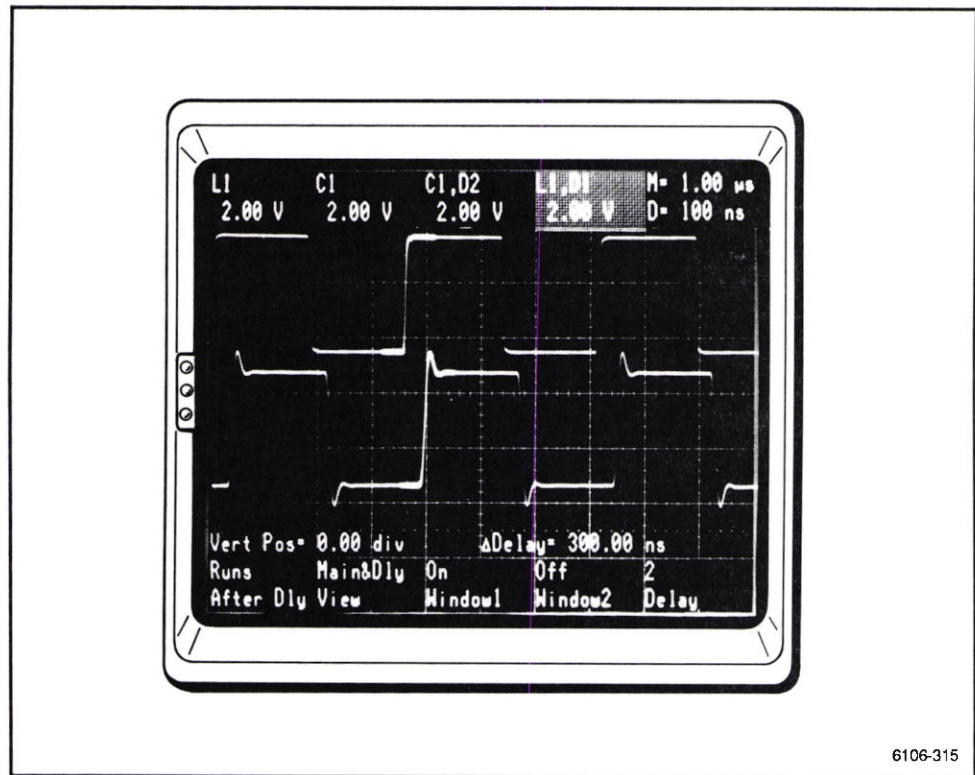

Figure 2-116. Setting delays for propagation delay measurement.
10. Use the Delay control to move the window zones to the desired event on each main trace. To do this, press the DELAY button, then turn the right knob. Touch *Delay* to alternate control from one zone to the other. (See Fig. 2-116.)